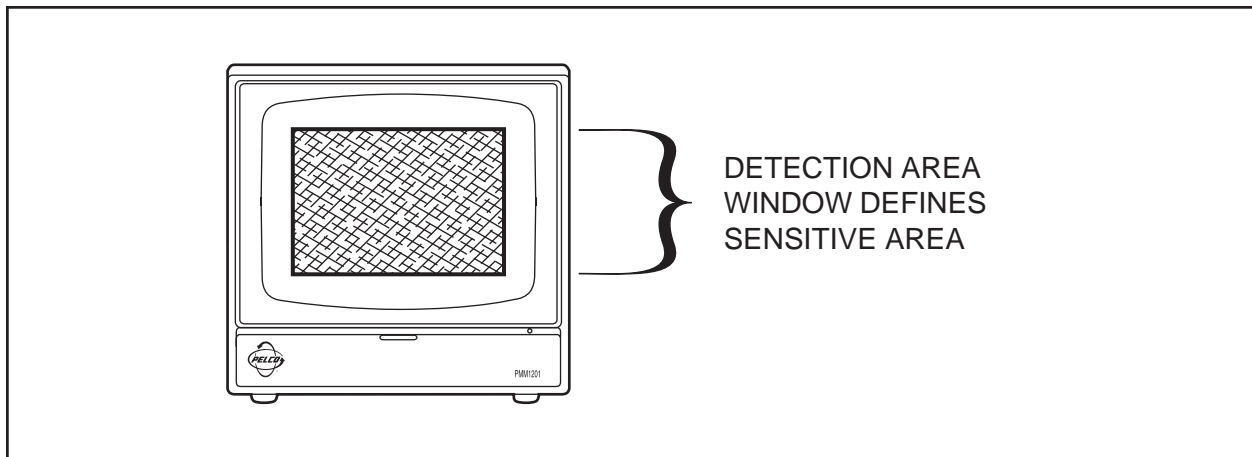

Figure 4. On-Screen Display of Detection Area Window
4. Turn the DISPLAY switch to ON (up). The detection area window (see Figure 4) can be seen on the monitor. Motion inside this detection window will be detected. The size of this area may be adjusted (using a small screwdriver) using the front panel controls for vertical and horizontal position and size. (See Section 4.1, FRONT PANEL CONTROLS AND INDICATORS)